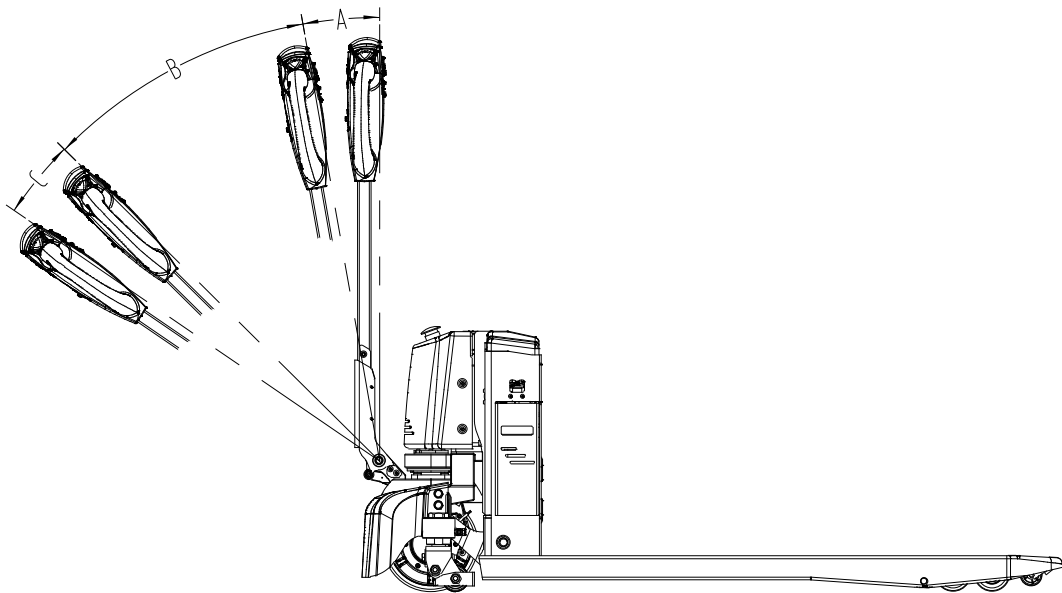

Figure 12
- Turn the handle to A or C quickly for emergency braking (Figure 12); the brake will lock the wheel to achieve an emergency braking.